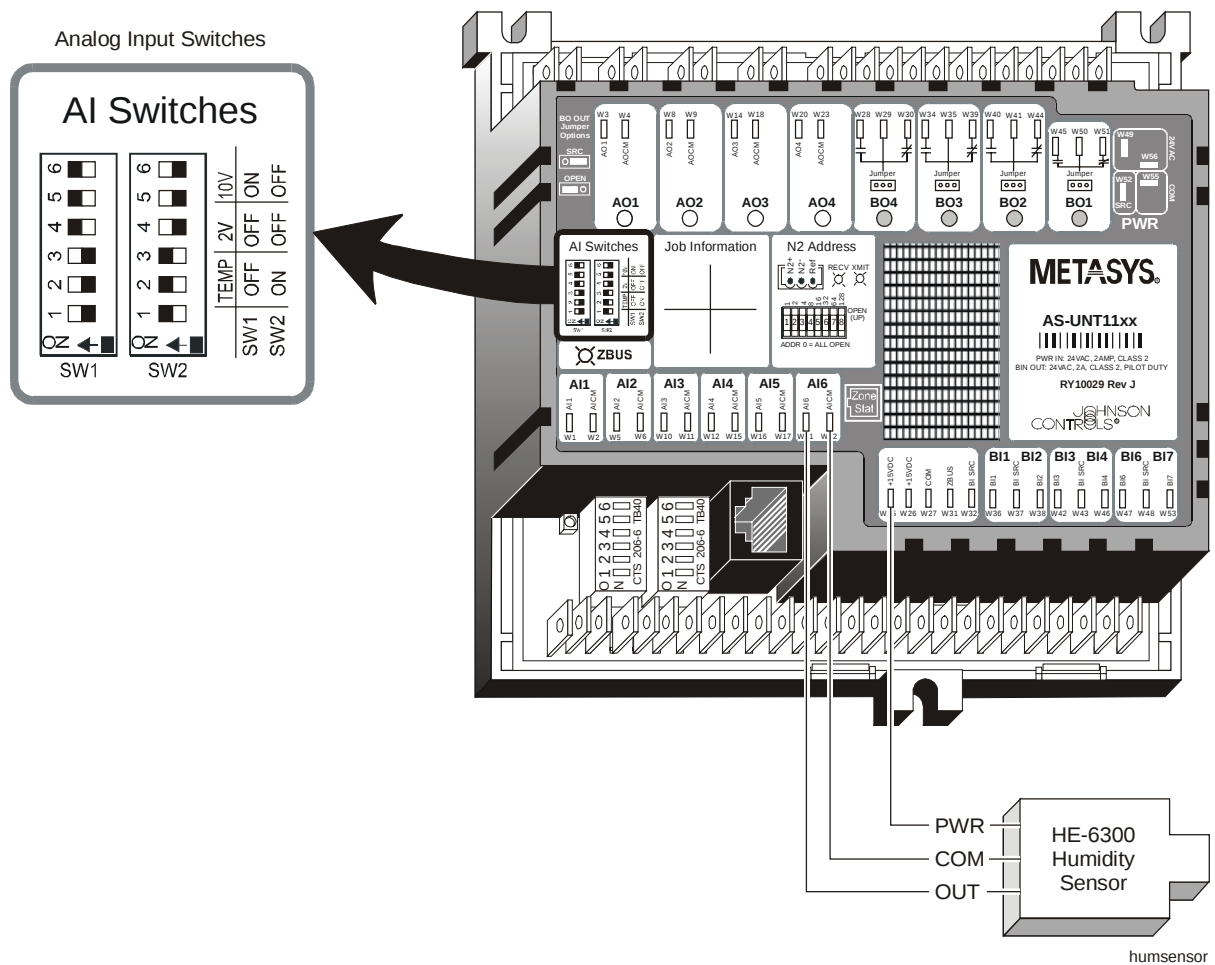

Figure 5-11: Example of HE-6300 Humidity Sensor Connection
1. Set the analog input DIP switches on the AS-UNTxxx board to 10 volts (Figure 5-11):